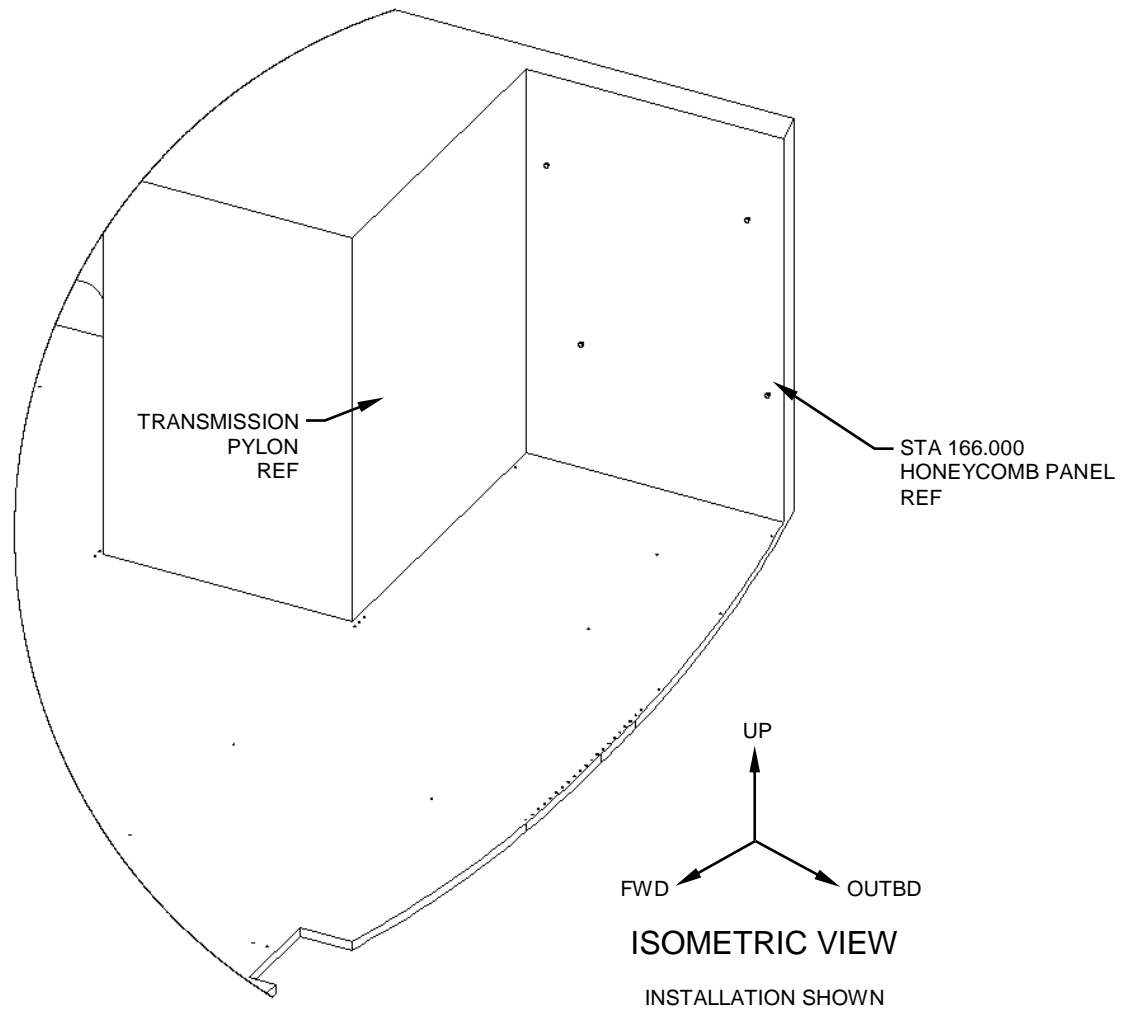

Figure 1
1. Gain access to the STA 166.000 bulkhead honeycomb panel. Reference Figure 1.
2. Remove any existing fasteners from coordinating inserts. Reference Figures 1 & 2.